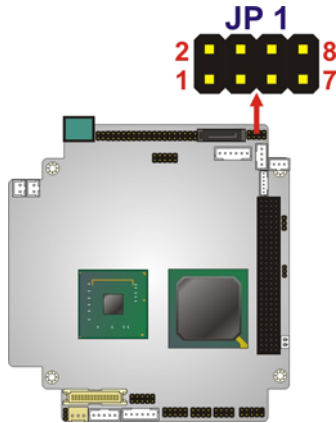

Figure 4-4: COM3 RS-232/422/RS485 Select Jumper Location
- Jumper Location:** See Figure 4-4